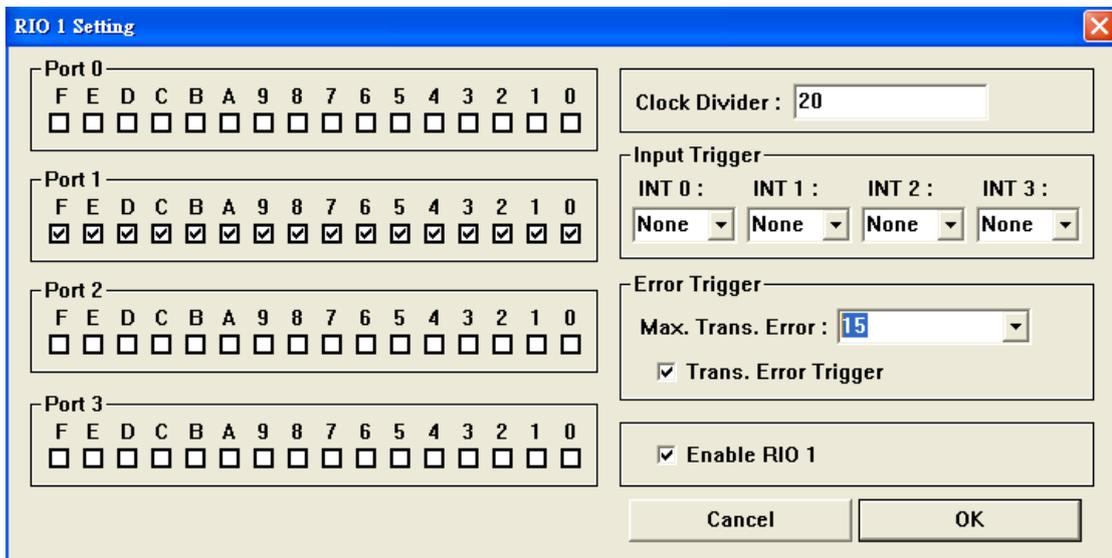

Figure 4-8.3
(4) Set remote I/O maximum transmission error (as shown in Figure 4-8.3)
(5) Set remote I/O transmission error interrupt (as shown in Figure 4-8.3)
(6) Set remote I/O enable status (as shown in Figure 4-8.3)